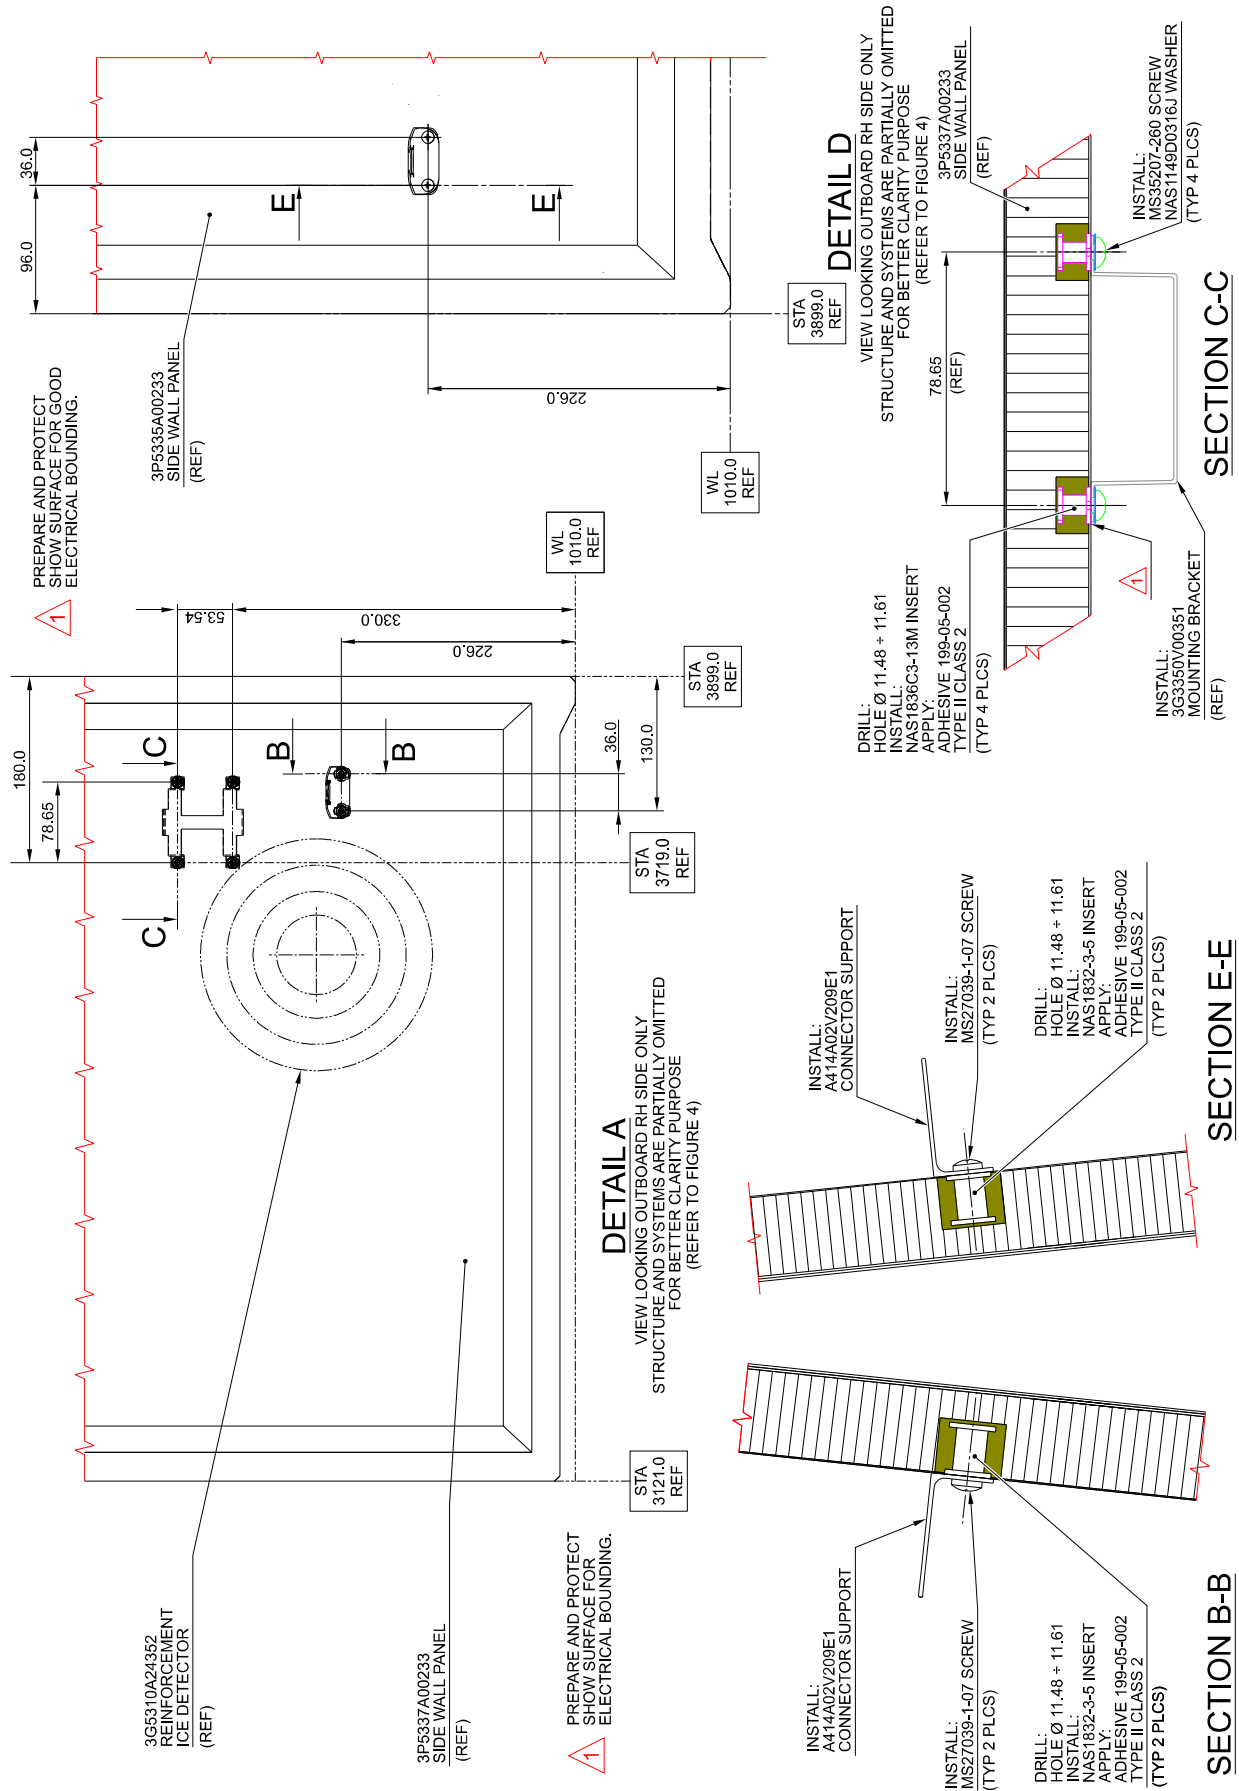

Figure 5
- 2.5.1.10 With reference to Figure 5 Detail D and Section E-E, install the connector support P/N A414A02V209E1 on the side wall panel P/N 3P5335A00233 by means of n°2 screws P/N MS27039-1-07.
- 2.5.1.11 With reference to Figure 5 Detail A and Section C-C repeat steps 2.5.1.1 thru 2.5.1.4 to install the mountain bracket P/N 3G3350V00351 on the side wall panel P/N 3P5337A00233.
- 2.5.1.12 With reference to Figure 5 Detail A and Section B-B repeat steps 2.5.1.7 thru 2.5.1.10 to install the connector support P/N A414A02V209E1 on the side wall panel P/N 3P5337A00233.